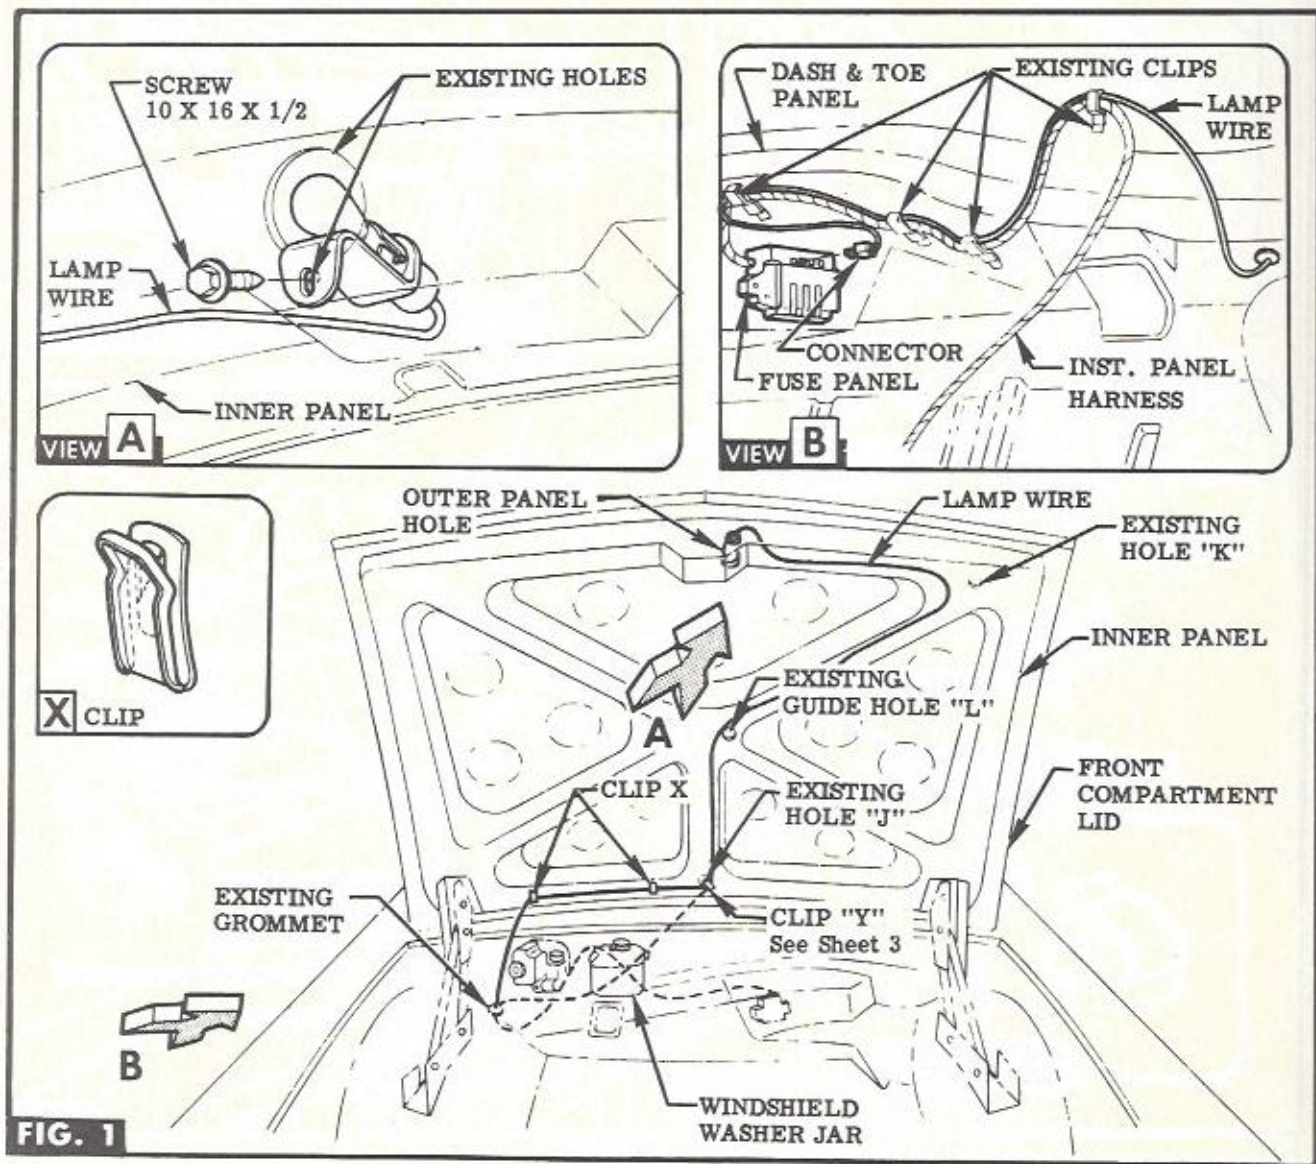

FIG. 1
**STEP 1** INSERT CURVED END OF LONG STIFF WIRE INTO HOLE "K". PUSH OVER TO HOLE IN INNER PANEL & FISH OUT. TAPE LAMP WIRE TO STIFF WIRE & PULL DOWN THRU HOLE "K". SEE FIG. 1.
**STEP 2** ROUTE STIFF WIRE BACK THRU HOLE "K" & DOWN PAST GUIDE HOLE "L" & PULL OUT THRU HOLE "J". SEE FIG. 1.
**STEP 3** UNTAPE LAMP WIRE FROM STIFF WIRE. SECURE LAMP WIRE AT HOLE "J" WITH CLIP "Y" PROVIDED. SEE FIG. 1.
GROMMET & ALONG EXISTING HARNESS TO FUSE PANEL ASM. SEE FIG. 1 & VIEW B. **NOTE** Route wire between bracket & jar on vehicles with windshield washers.